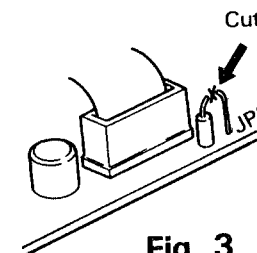

Fig. 3
5. Cut the jumper wire (JP2) as Fig. 3. (TH-405AT/405A/405E only)